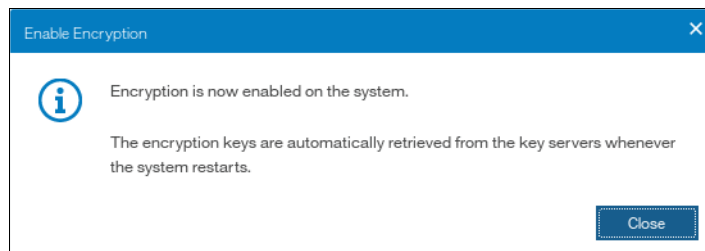

Figure 13-38 Encryption enabled message using a key server
10. If there are no errors while creating the key server object, you receive a message that confirms that the encryption is now enabled on the system, as shown in Figure 13-38.